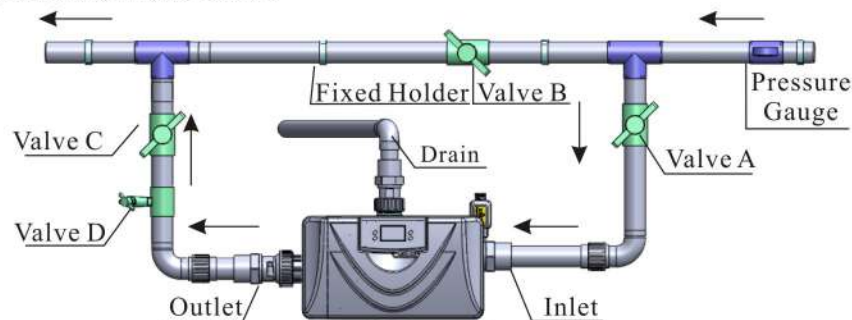

Figure 1-3
③ Pipeline connection
- As Figure 1-3 shows, install a pressure gauge in water inlet.
- Install valves A.B.C.D in inlet, outlet and pipeline as showed in Figure 1-3. Valve D is a sampling valve.